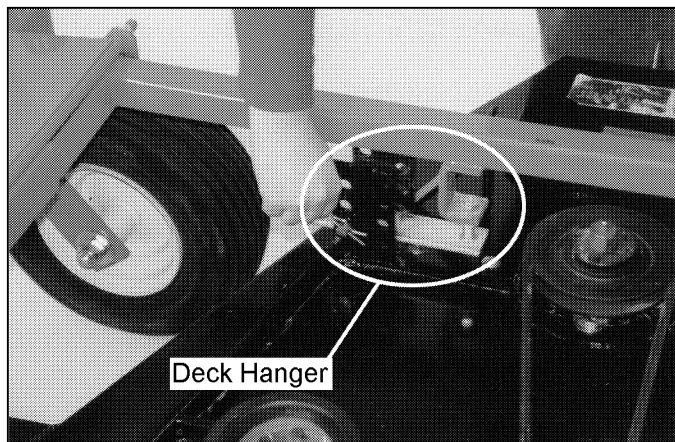

Figure 14
2. Remove all four Clevis pins from the deck hangers (*Figure 14*).